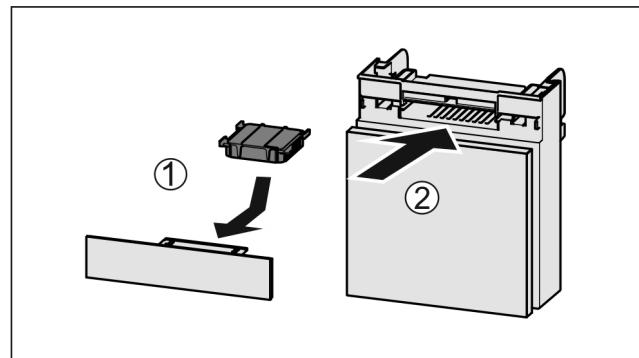

Fig. 98
- ▶ Insert the carbon filter as shown in the diagram Fig. 98 (1).
- ▶ Push the compartment in Fig. 98 (2).